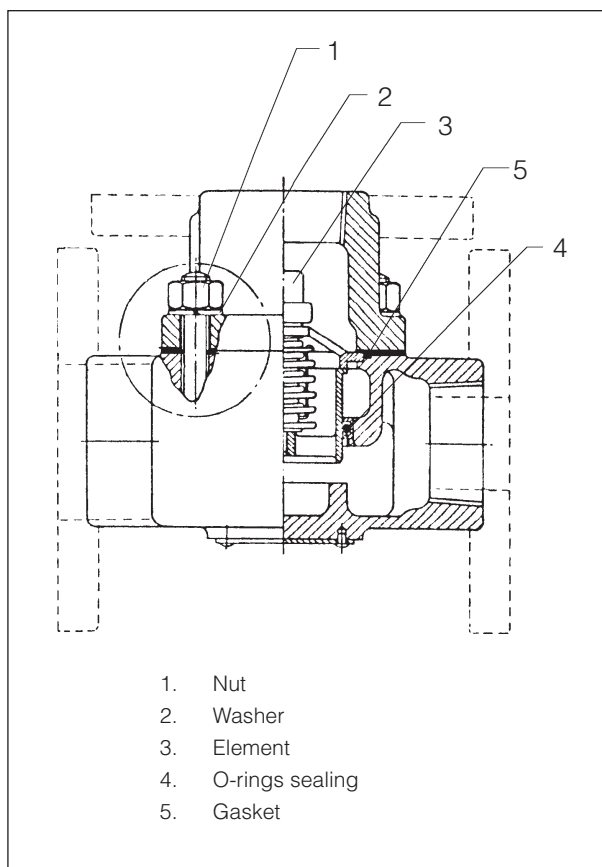

Fig. 1 Thermostatic valve
- 1) Remove nuts (1) and washers (2), 4 or 6 pcs. See fig. 1.
- 3) Remove the assembled elements (3) and the elements O-ring sealing.
- 6) The sealing rings (4) for the elements in the housing are replaced and lubricated with a thin layer of copaslip.
- 8) Upper and lower part of the housing are assembled with a new gasket (5), the nuts (1) are mounted and tightened "cross-wise".